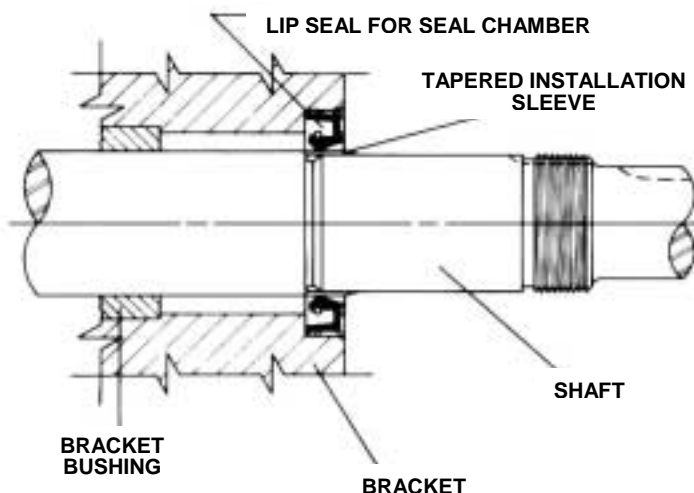

FIGURE 7
2. Install lip seal in bracket. **Refer to Figure 7.**